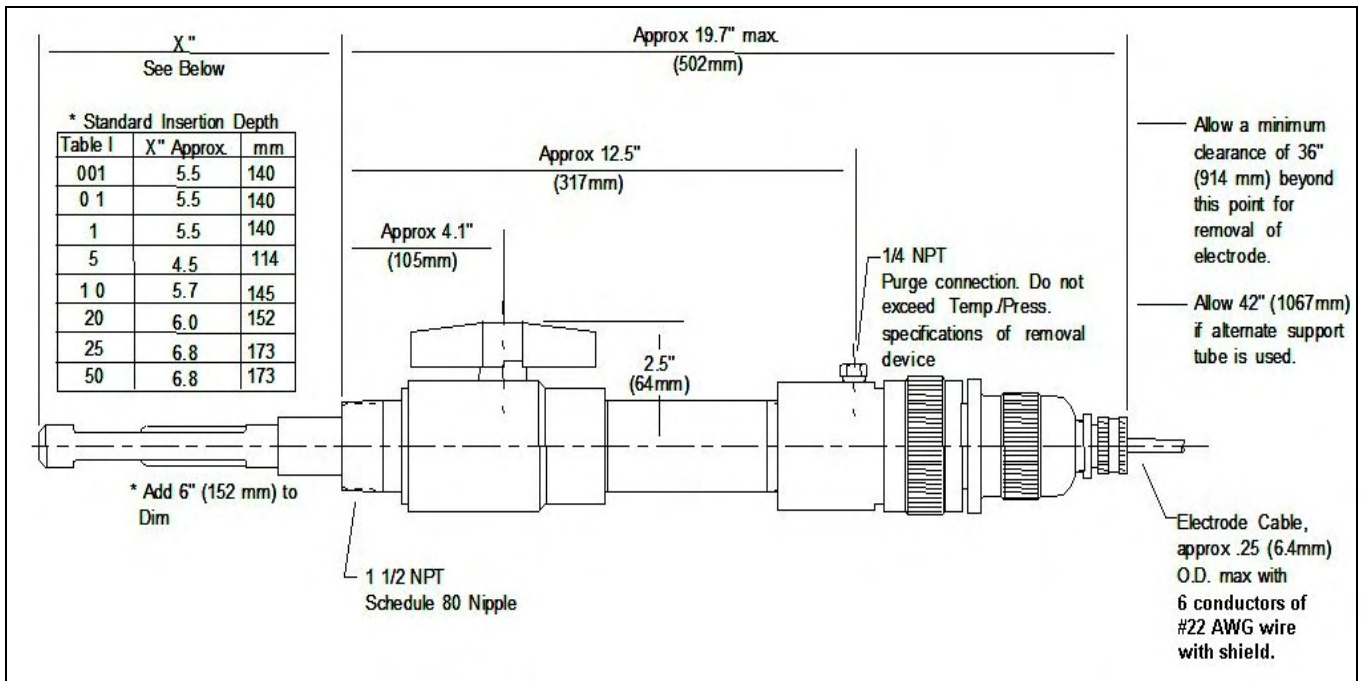
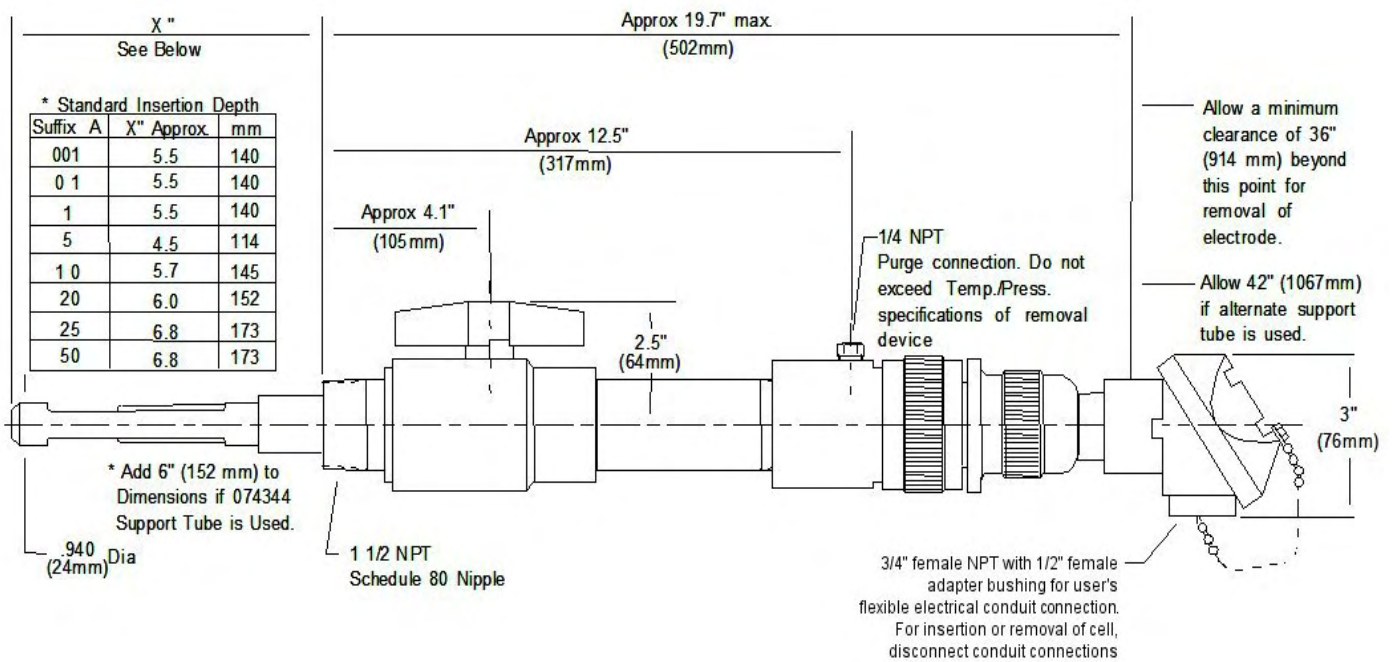

Figure 3-1 Outline and dimension drawing for Conductivity Cell, Insertion Type with CPVC removal Device with 20' cable
Figure 3-2 Outline and Dimension drawing for Conductivity Cell, Insertion Type with CPVC Removal Device and Universal Head
1-1/2" NPT male pipe. Overall length of removal device: approximately 20 or 22 inches (allow additional clearance for cell withdrawal). See Figure 3-1 and Figure 3-2.
Varies between 4.5" and 6.8" nominal, depending upon cell constant. Greater insertion depth optional. See Figure 3-1 and Figure 3-2.
Refer to Figure 3-1 or Figure 3-2 for mounting dimensions.
Allow for insertion depth from the outside wall of the mounting surface as indicated by the dimensions in Figure 3-1 or Figure 3-2.
Allow clearance behind the support grip to permit removal of the cell per dimensions in Figure 3-1 or Figure 3-2.
2. Withdraw the support tube, bushing, washer and handle assembly keeping the bushing and washer in place on the support tube. When greater insertion depth of the conductivity cell into the process solution is desired, p/n 31074344 Support Tube will give an additional 6 inches immersion beyond the standard depth. See Figure 3-1 and Figure 3-2. If 31074344 Support Tube is to be used, it must be secured to the support grip.
Cells are available with leadwire of 20 feet. For distances greater than 20 feet, use the required length of cable and a junction box, as noted in the Wiring Diagrams. For assemblies supplied with a Universal Head, Figure 3-2, a junction box is not required.